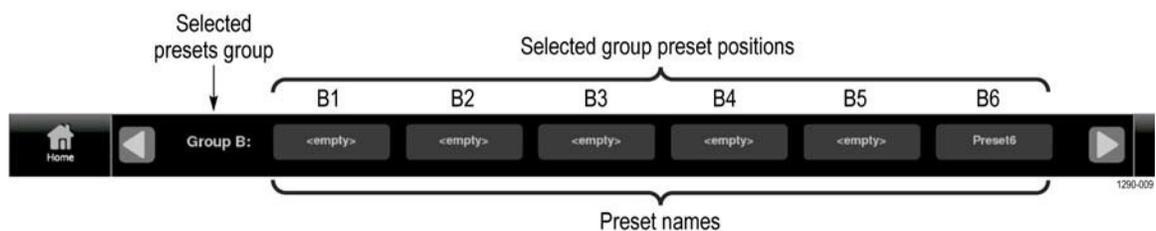

Figure 67: Preset selection controls (Group B shown)
When you select OK, the preset name changes from <empty> to Preset <number>. The number is the preset position in the preset group. (See Figure 67.)
1. Select the **Presets** icon (★) at the bottom of the PRISM display to open the Preset selection controls. (See Figure 67.)